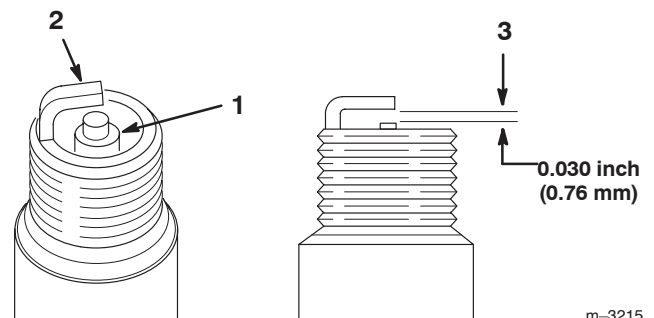

Figure 55
- Look at the center of the spark plugs (Fig. 55).
- Check the gap between the center and side electrodes (Fig. 55) and bend the side electrode, if the gap is not correct.